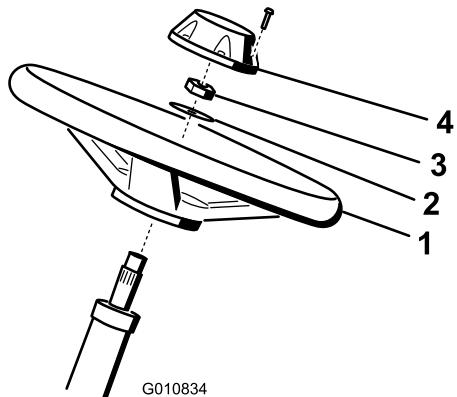

Figure 5
- Slide the steering wheel onto the steering shaft (Figure 5).
- Slide the washer onto the steering shaft (Figure 5).
- Secure the steering wheel to the shaft with a jam nut and tighten it to 20 to 26 ft-lb (27 to 35 N-m) (Figure 5).
- Install the cap to the steering wheel and secure it with a screw (Figure 5).